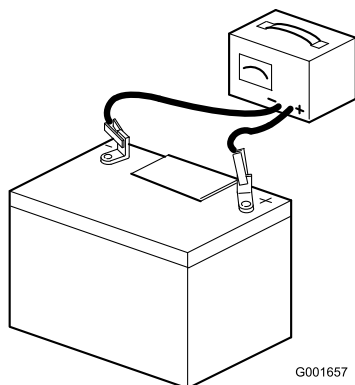

Figure 7
7. Connect a 3 to 4 amp battery charger to the battery posts (Figure 7). Charge the battery at a rate of 3 to 4 amperes for 4 to 8 hours.